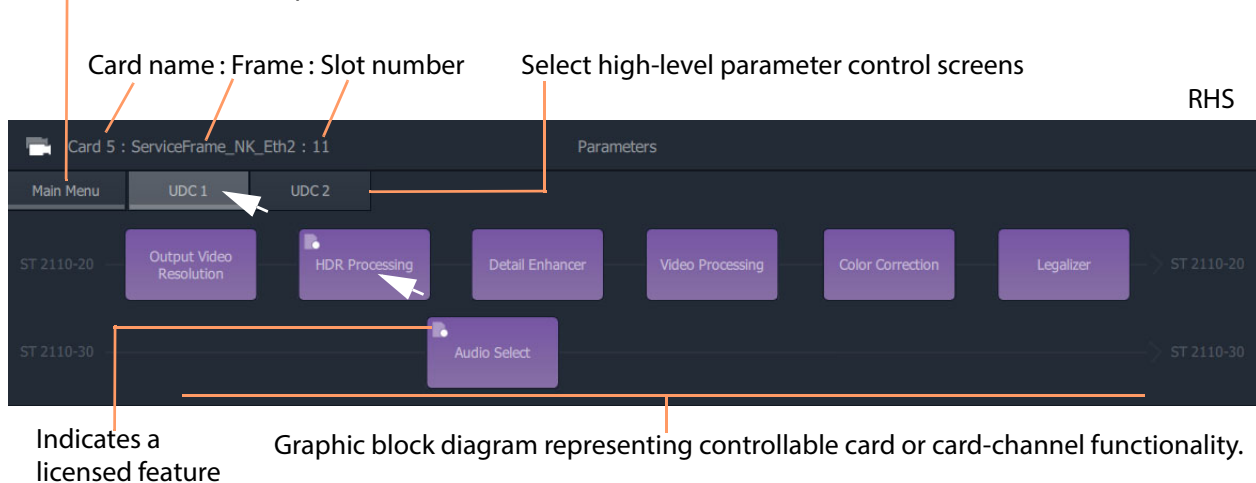
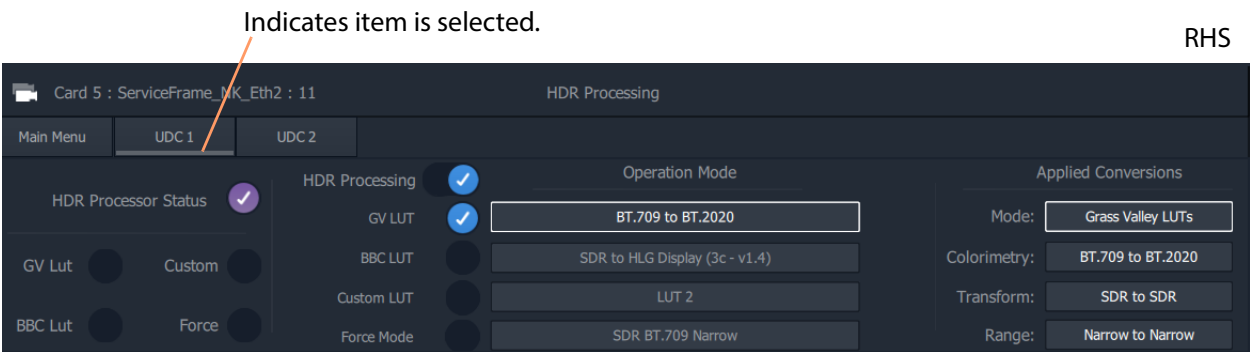

Fig. 5-6: Example Card Parameter Control Screen - Main Menu Example for XIP Card Shown
Fig. 5-7: Example HDR Processing Parameter Controls (Example shown is for XIP Card)
- 1 Select the high-level parameter control screen for card or card-channel. For example, 'UDC 1'. (See Figure 5-6.)
- 2 Select a card function to control. For example, 'HDR Processing'. (See Figure 5-6.) Controls are presented for the selected function. (See Figure 5-7 for an 'HDR processing' example.)